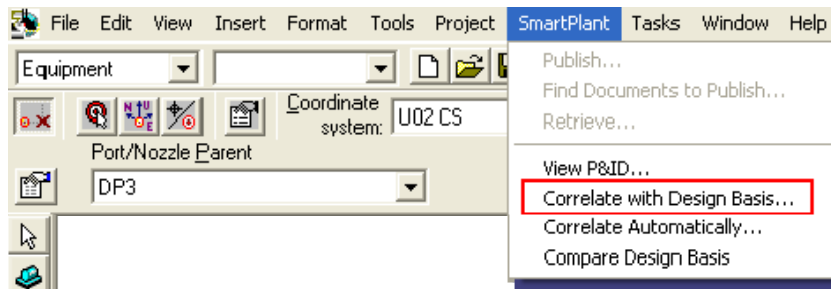

Figure 14: SmartPlant > Correlate with Design Basis... Command
3. On the **SmartPlant** menu, click **Correlate with Design Basis...** command, as shown in Figure 14.